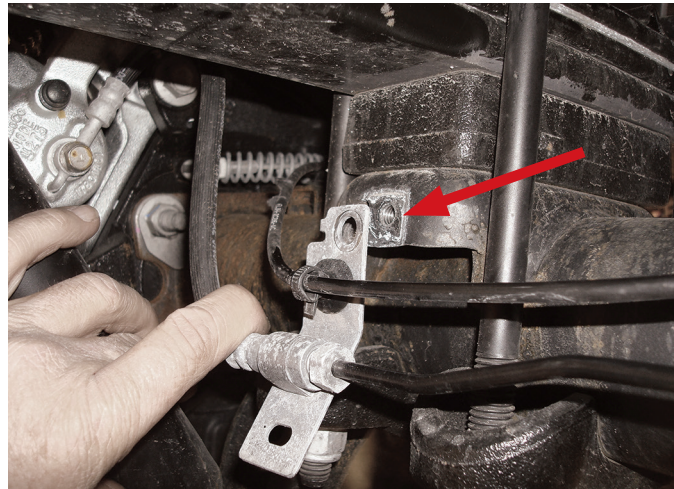

fig. 6
4. In order to install the lower brackets, remove the stock M8 hardware holding the brake/ABS and emergency brake line brackets to the spring perches (Figs. 6 & 7) and pull the brackets slightly away from the spring perch.